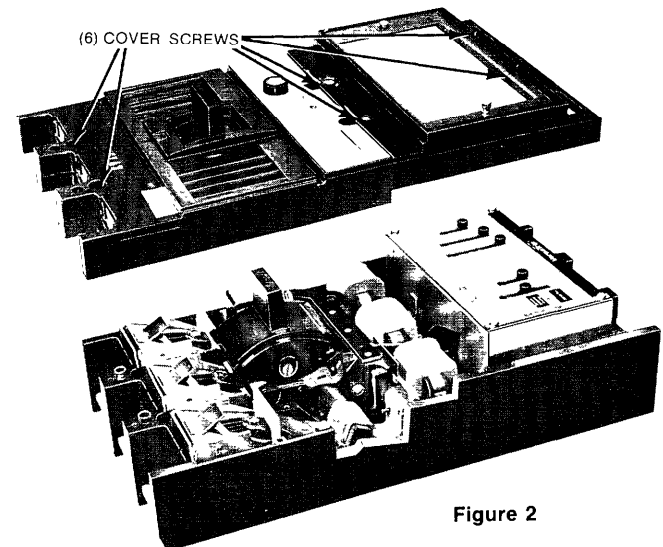

Figure 2
2. Remove cover from breaker by removing (6) cover screws. (Figure 2)